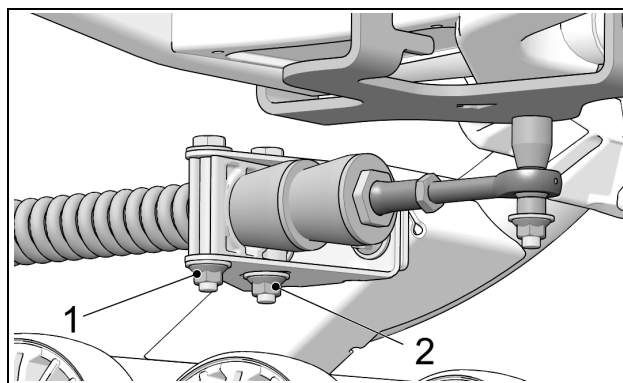

Figure 19
- Re-tighten anti-rotation bracket nuts (1) and (2) to 50 N•m [37 lb-ft] of torque. See Figure 19.